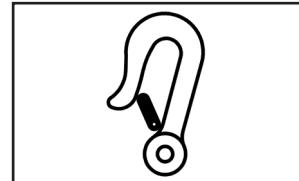

Figure 2
Remove the backrest from the backrest frame (see fig. 2)
- The positions of the four attachment points on the Canto Nxt are indicated with a hook symbol sticker (see figure 2).